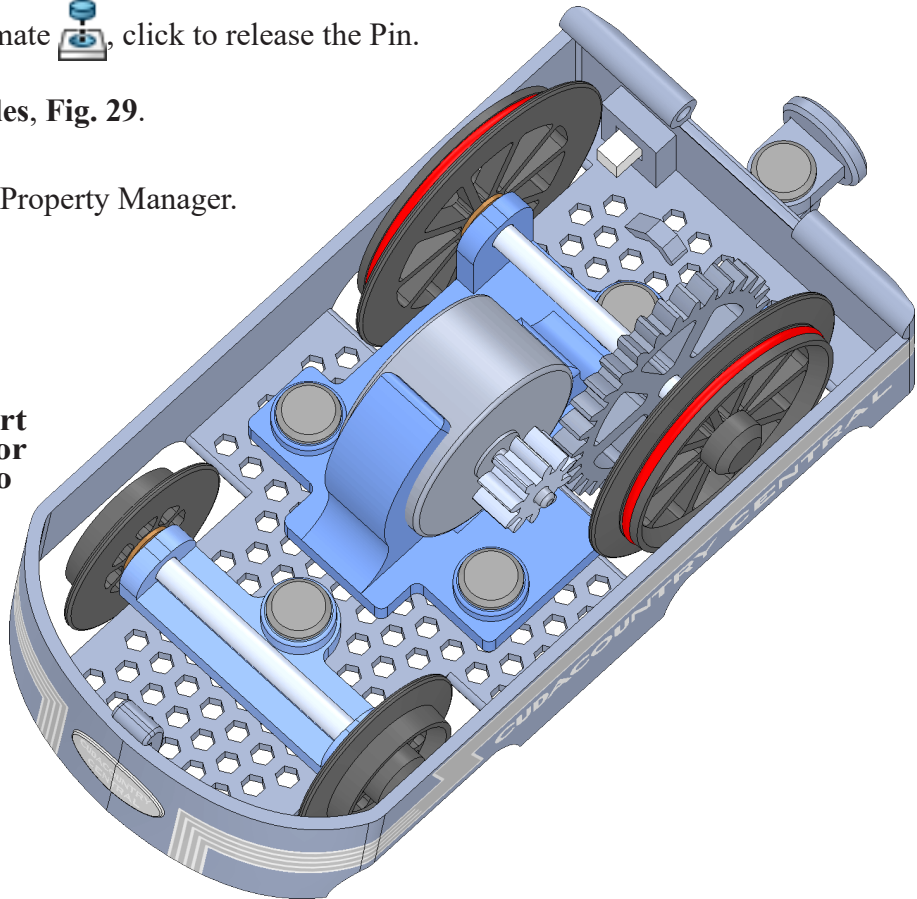

Fig. 29
Step 2. If necessary, **hide Hatch**  and **Solar Panel**  components, **Fig. 29**. To hide, move cursor over the component and press **Tab** key. To show **Shift - Tab**.
Step 6. In the graphic area position cursor over **edge of a Pin hole**, **Fig. 29**. When Pin snaps into place and cursor changes to indicate Concentric and Coincident mate , click to release the Pin.
Step 7. Place Pin at **all 5 holes**, **Fig. 29**.